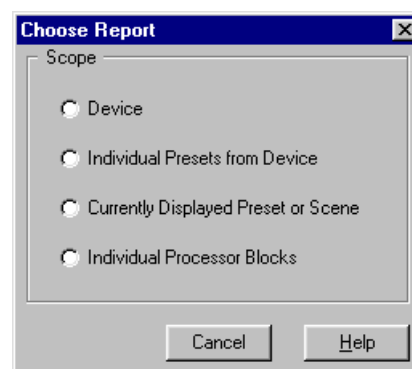

Figure 62 – Choose Report Dialog
2. The Choose Report dialog opens, as pictured to the right in figure 62.